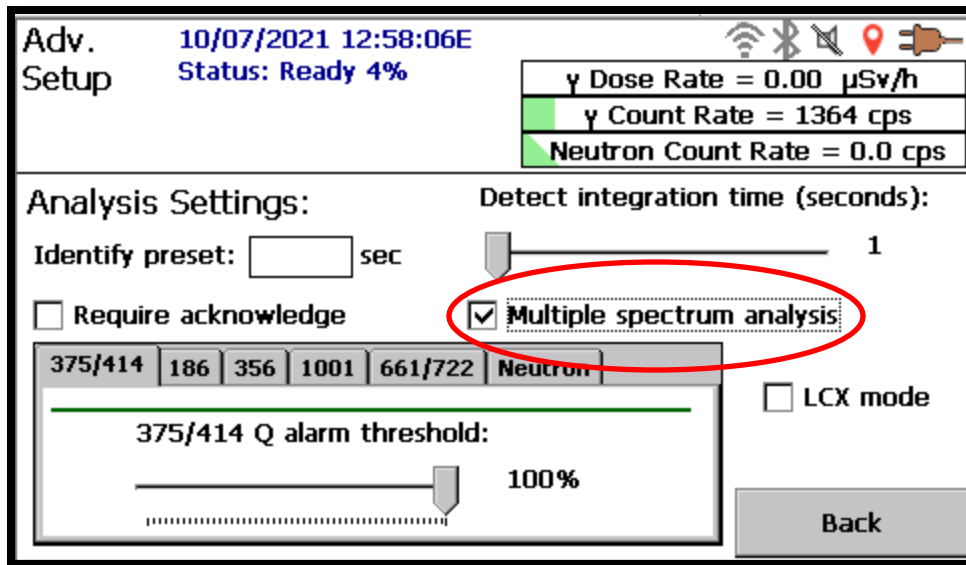

Figure 66. Enable Collection of Multiple Spectra in a Single File
- On the Advanced Setup screen, tap **Analysis** to open the Analysis Settings page, then tap to mark the **Multiple spectrum analysis** checkbox (see Figure 66).